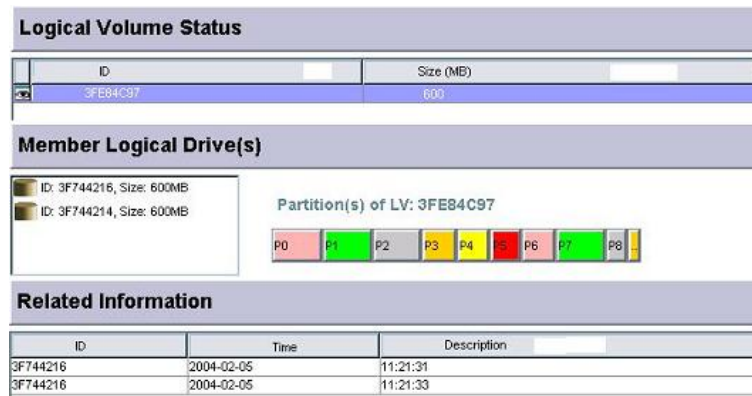

Figure 11-9: Opening Logical Volume Information Display
Step 1. To access the **Logical Volume Information**, single-click its display icon on the navigation panel or select the command from the **Action** command menu. After opening the information window, select a logical volume by single mouse-click. The window defaults to the first volume on the list. A display window as shown in **Figure 11-9** should appear.